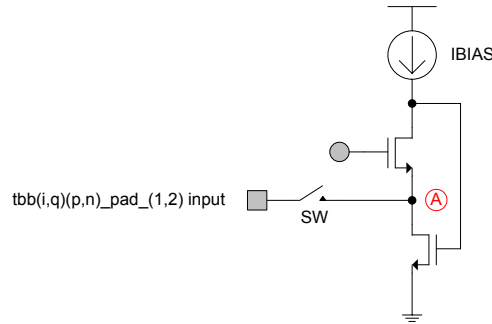

Figure 1. Simplified current amplifier input stage of the LMS7002M
A simplified current amplifier input stage of the LMS7002M transceiver is shown in Figure 1. When the signal source is external, the use of current buffer input is recommended in most cases, since it retains the ability to control the TX baseband gain by using the internal current
$U_{(A)bias}$ – voltage at the (A) node (see Figure 1), that is set by the bias settings of the current amplifier. Default – 0.23V;